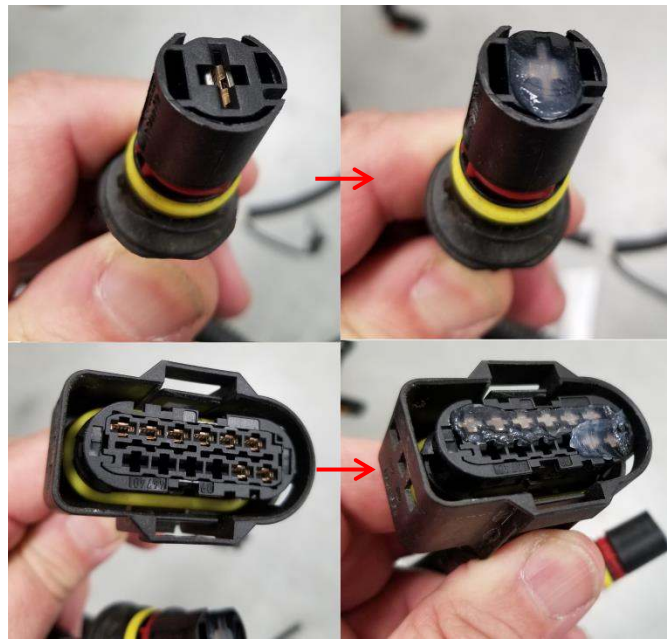

Figure 4
5. Put dielectric grease in the GPCM connectors as shown in Figure 4 and reconnect them to GPCM.